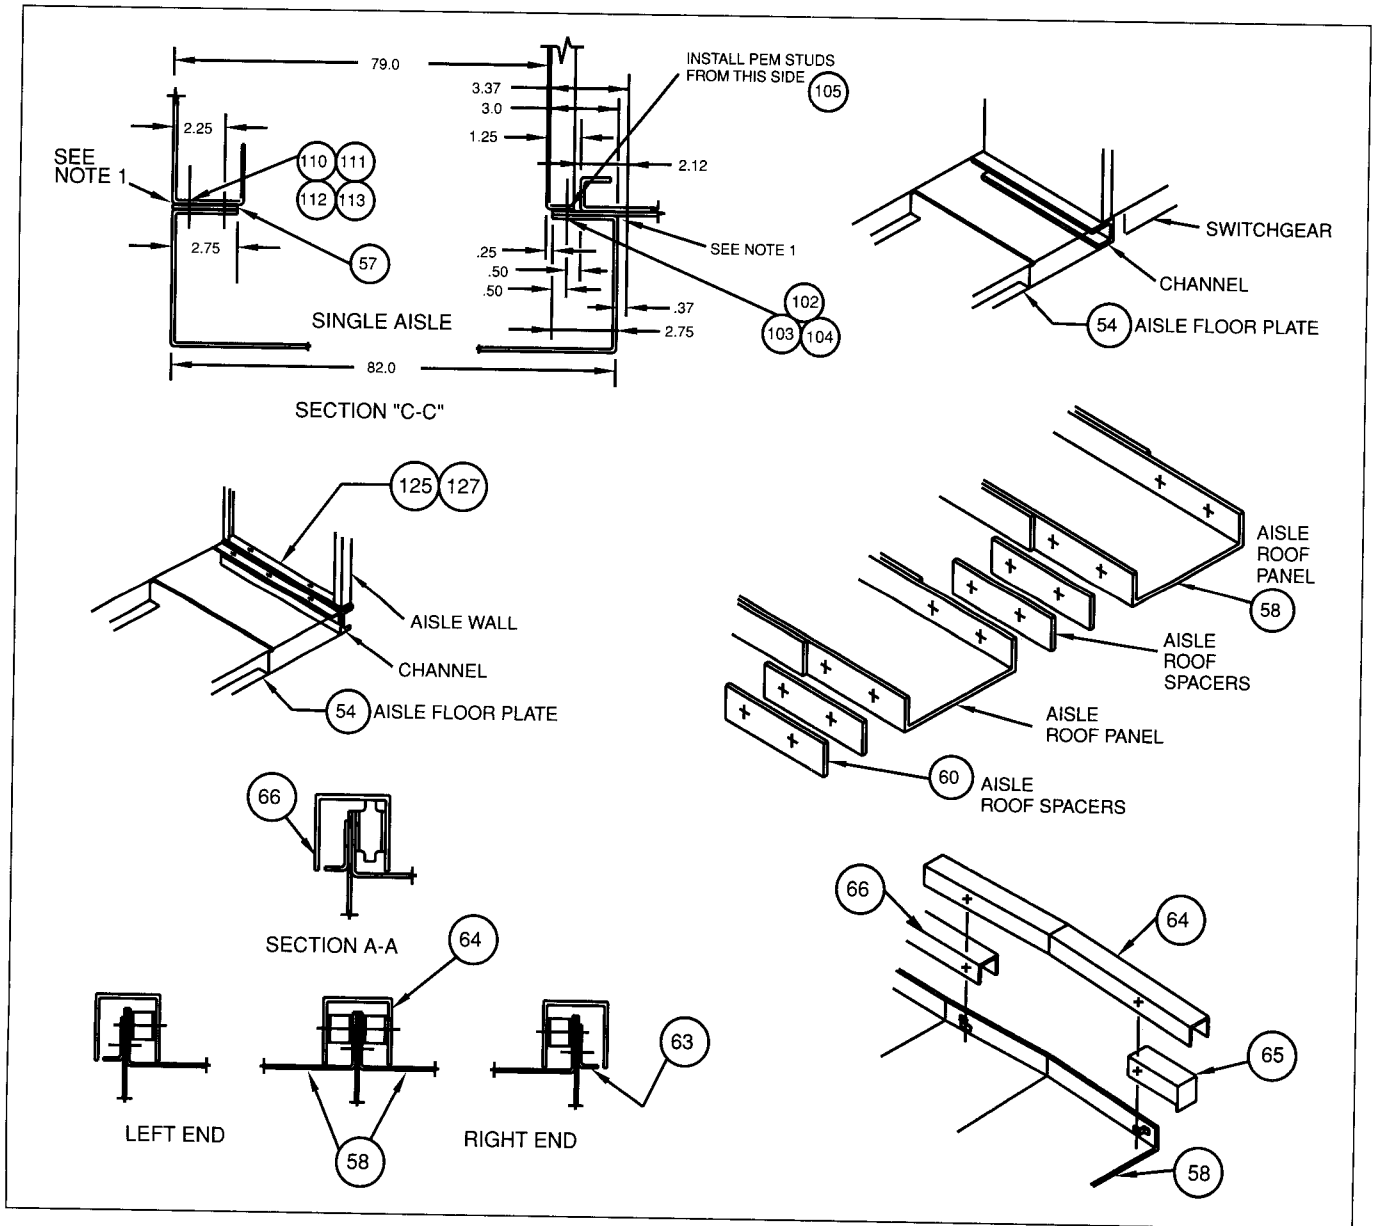

Figure 15. Sections and Roof Installation Details
2. See Figure 15 for Sections and Roof Installation Details.